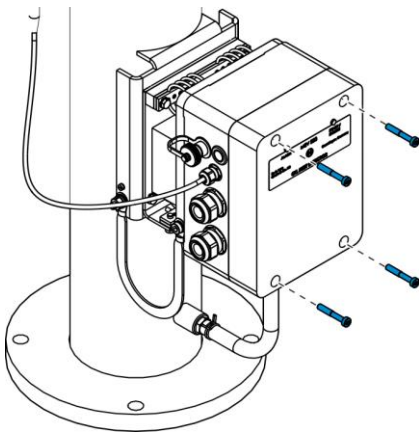

Fig. 72: Inserting screws
13. Tighten the screws of the housing cover (Fig. 72).